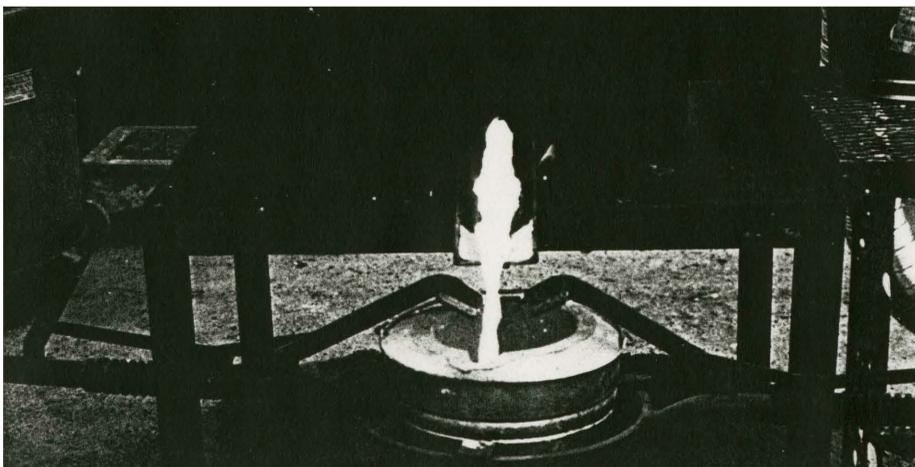

Fig. 14. Bott removed and iron flowing down spout.
- C. With poker, smartly break out bott and gently ream breast hole to assure even and thorough flow down spout and into preheated ladle, see Fig. 14.